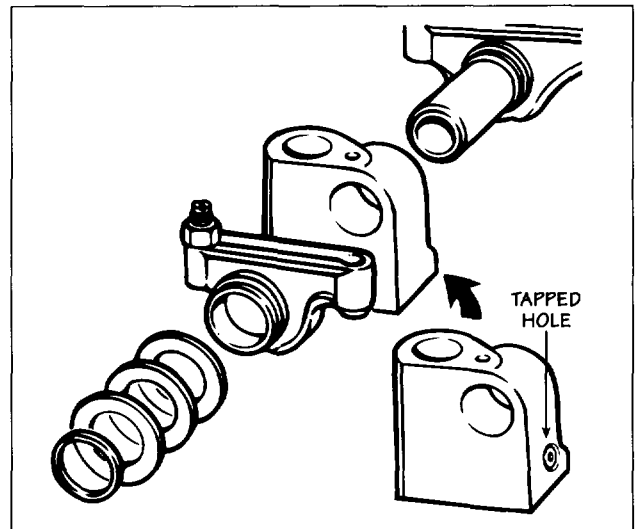

FIG. 6
IF THE CATERPILLAR REAR ROCKER BRACKET IS NOT TAPPED FOR THE JACOBS OIL SUPPLY FITTING, THE REAR BRACKET MUST BE REPLACED WITH THE CATERPILLAR BRACKET, P/N 7C7011. IF THE BRACKET IS TAPPED (SEE FIG. 6), IT IS NOT NECESSARY TO REPLACE THE REAR BRACKET (STEPS 1 - 3).
1. Remove the retainer ring, washer, spring and washers from the rear end of the rocker shaft. Make note of the number of washers used at the rear end of the shaft (see Fig. 6). Remove the rocker arm.